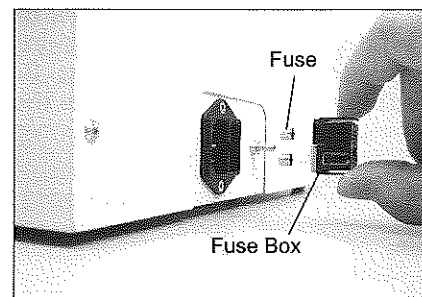

Fig. 20
Squeezing the upper and lower ratchets of the fuse box inward at the same time, pull out and remove the fuse. Replace the fuse with a new recommended fuse (see 4. (1) "Fuse Rating") and push it into the original position. (Fig. 20)